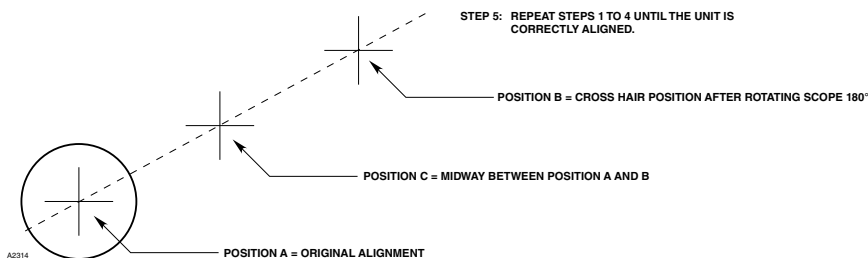

Figure 27—LS2000 Alignment Using the Telescope Alignment Tool
- A. Adjust the telescope alignment screws until the cross hairs are midway between the original position (center of transmitter window) and the current position (after the scope was rotated 180°). See Figure 27.